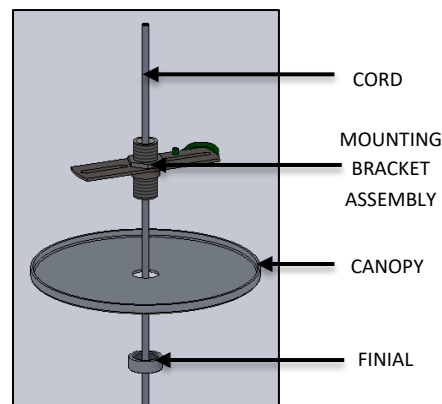

FIG. 25 - CORD INSTALLATION
1. INSERT CORD into CANOPY FINIAL (THREADS UP), CANOPY and MOUNTING BRACKET as shown in FIG.25 and adjust fixture drop to desired height.